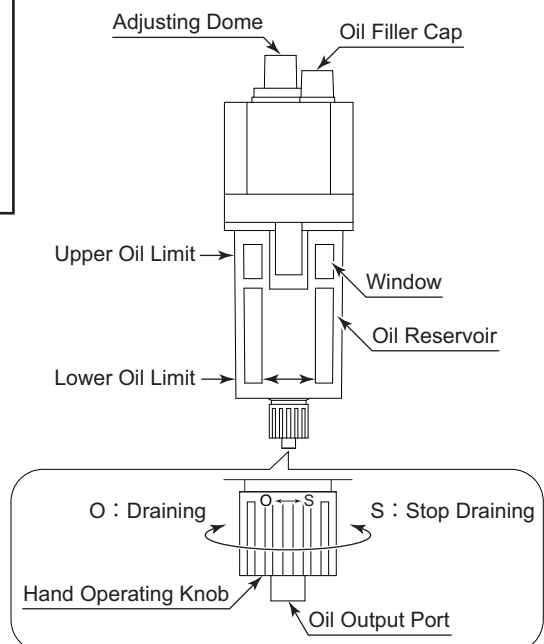

Fig. 3
8 - 2 Lubricator (Fig. 3)
(1) Oil Amount (Fig. 3)
(Supply Lubricating Oil to Upper Oil Level Limit of Fig. 3.)
(2) Replacing the Lubricating Oil and draining the water in the Lubricating Oil (Fig. 3)